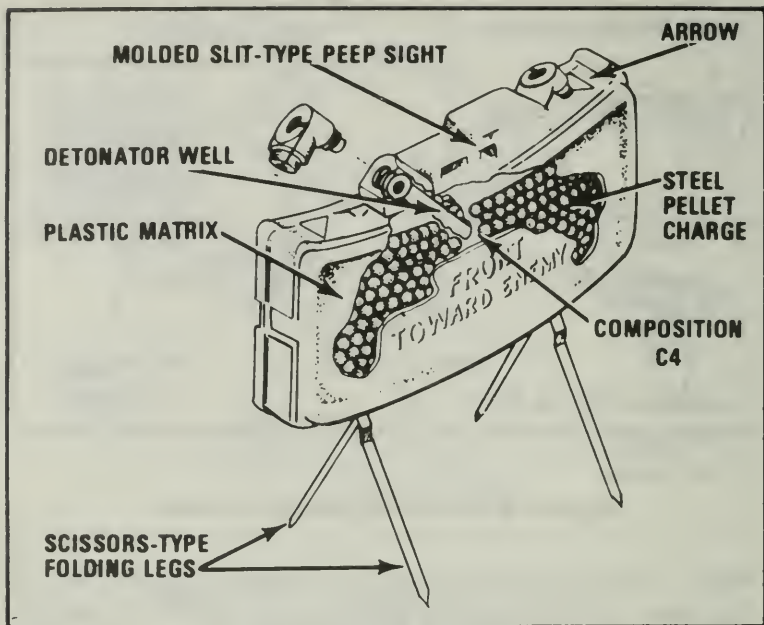

Figure 199. Placing and aiming the mine.
a. Remove the mine from the bandoleer. Open both pairs of legs to a 45-degree angle with two legs facing to the front and two legs facing to the rear of the mine (Figure 199).